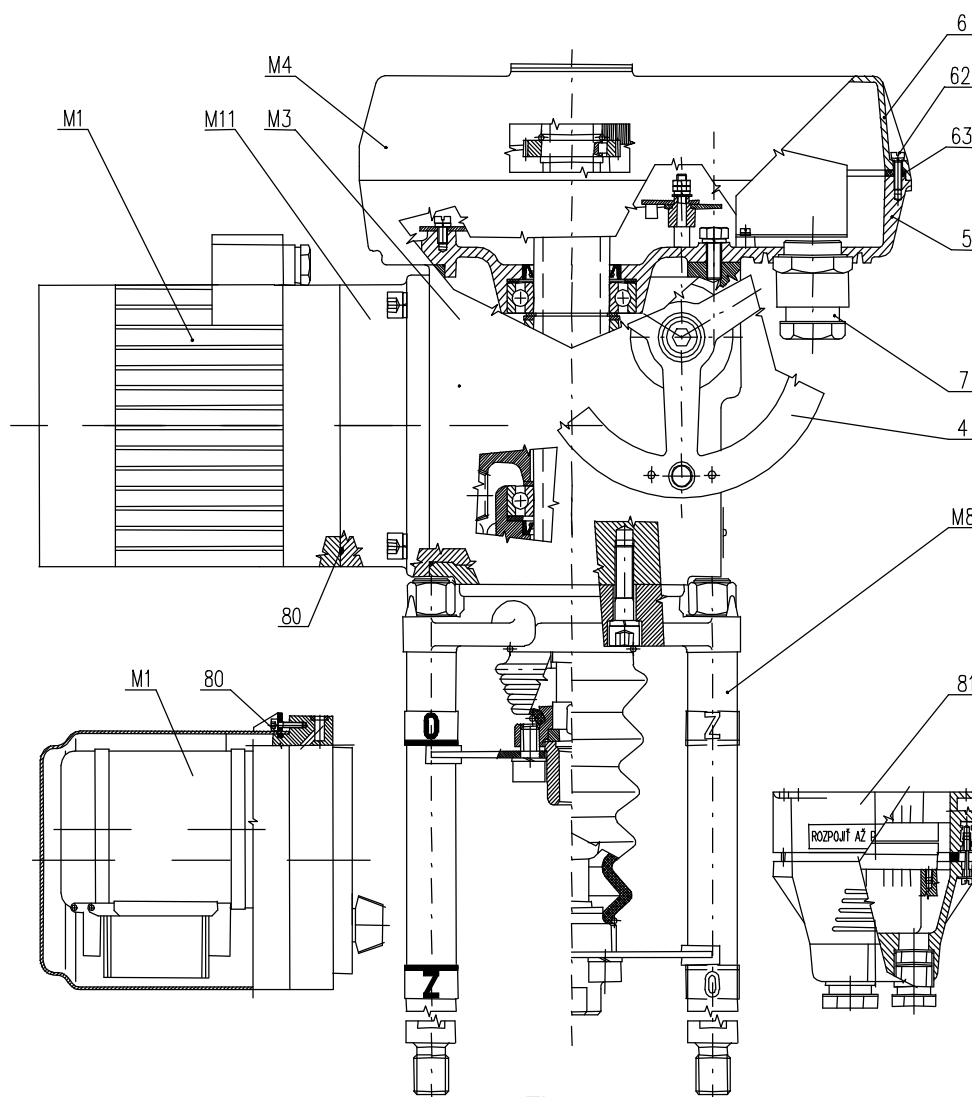

Fig.1
The actuators MT 52 400 resp. MT(R) (Fig.1) consist of the following modules:
Module M4 – control box (Fig. 1)
- position unit (11)
- signalling unit with gear unit (12)
- torque unit (9)
- transmitter unit (33) (according to EA specification)
- heating resistor (16) with thermal switch (15)
- controller (only for EA **MOR**) (14)
- reversing contactors (13) (according to EA specification)
- electrical connections by means of terminals (58) situated within terminal box , and cable bushings (7) (Fig.1), or connector with cable bushings